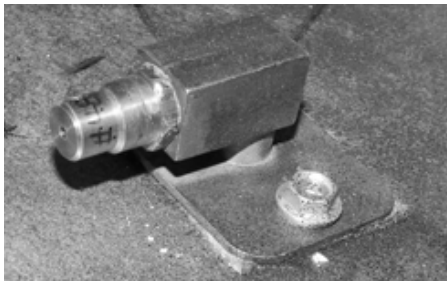

Figure 2 - Burner Orifice
Step 2. Replace front and rear Burner Orifices (see **Figure 2**). replace the front and rear burner orifices with the orifices supplied in this kit.